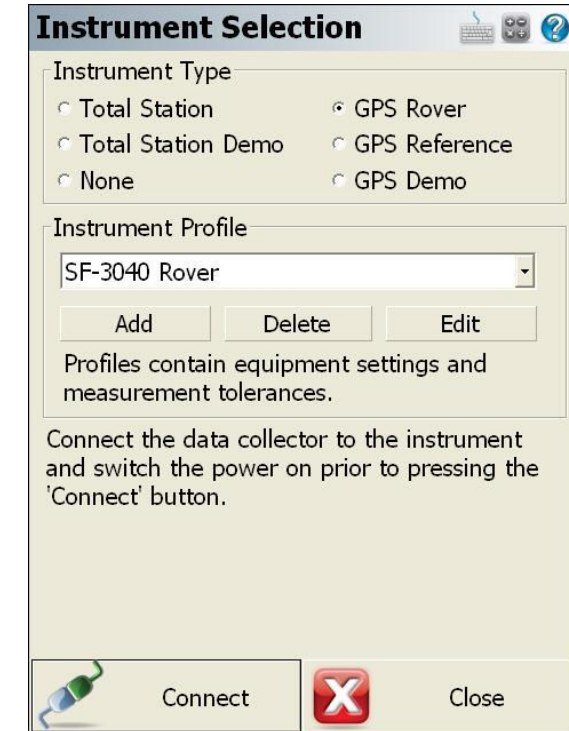

Figure 6: Instrument Selection
72. On the **Instrument Selection** dialog box (refer to Figure 6), select **GPS Rover**.